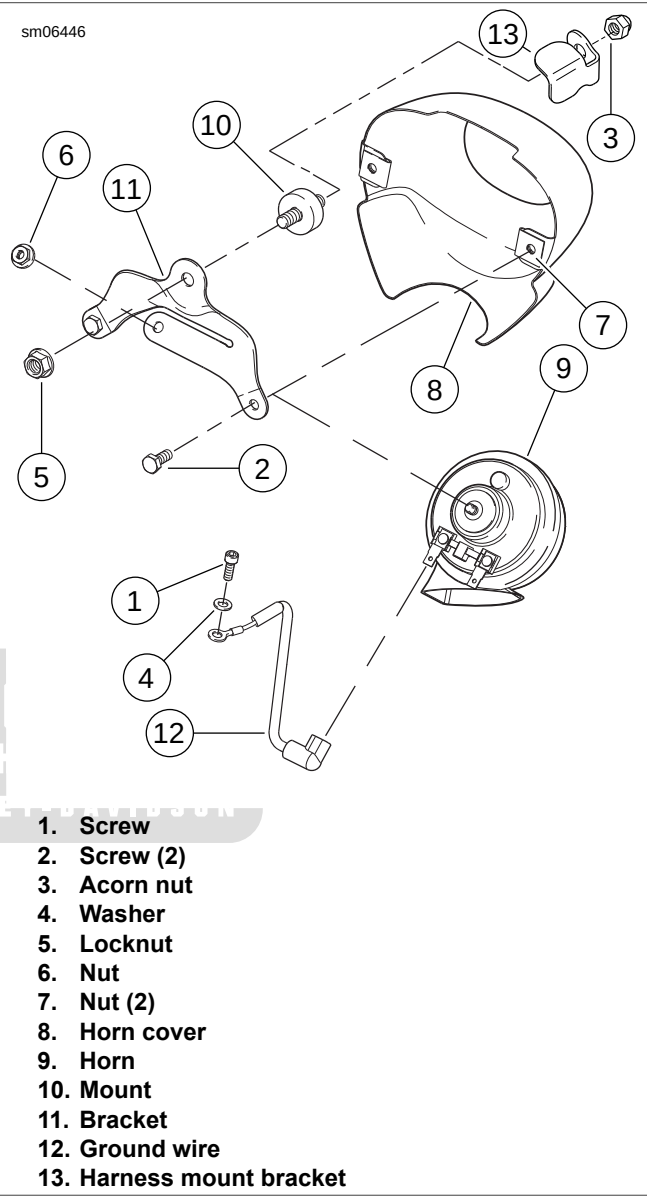

Figure 7-45. Horn (typical)
1. See Figure 7-45. Remove acorn nut (3), harness mount bracket (13) and detach horn assembly from motorcycle.
2. Note location, and remove wires from connections on back side of horn (9).
3. Remove nut (6) securing horn to mounting bracket (11).
5. See Figure 7-45. Attach horn assembly to motorcycle using mount (10), harness mount bracket (13) and acorn nut (3). Tighten to 9-15 Nm (80-132 in-lbs).